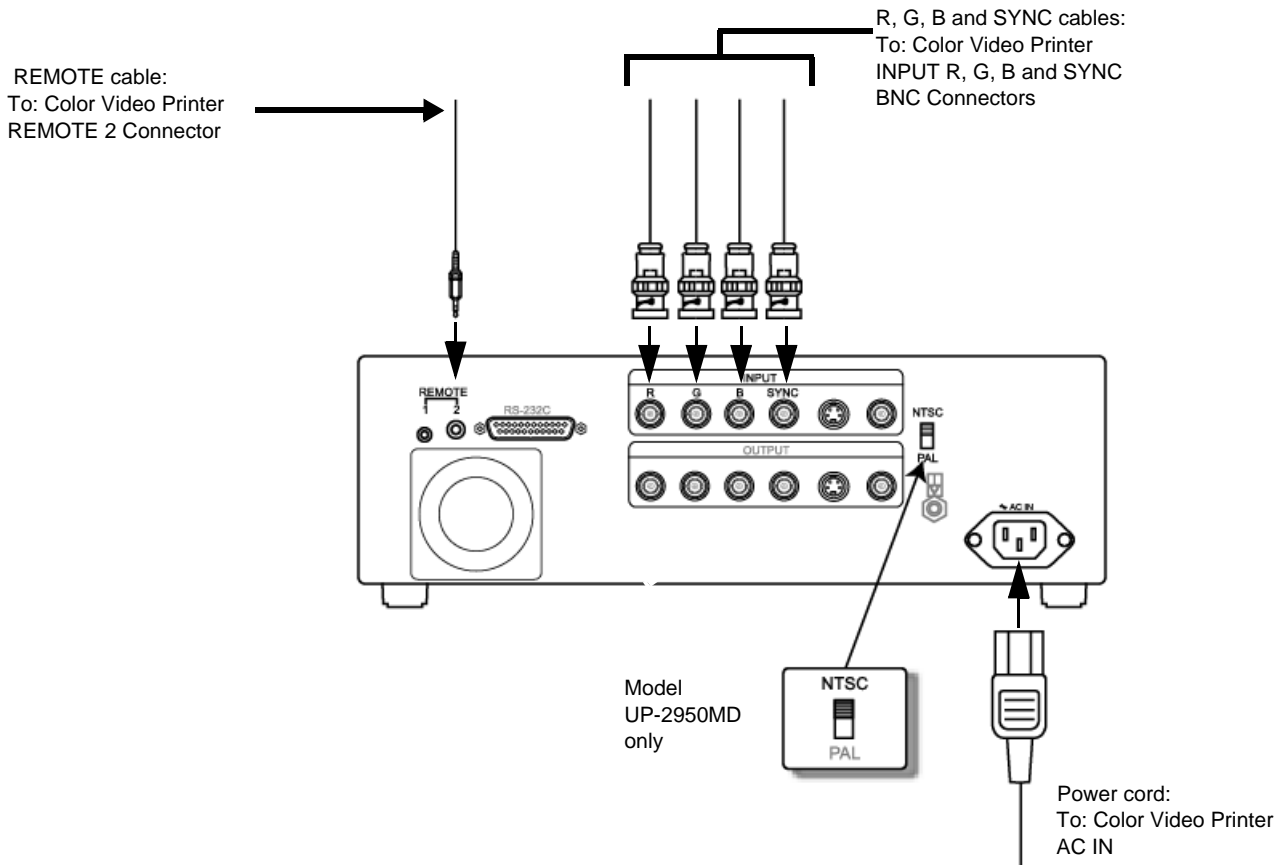

**Figure 8-121 Color Video Printer Ground Cable Connection**
- 17.) Connect the Ground cable (hanging out of the Bottom Metal Cover) to the Ground screw at the rear of the Color Video Printer, as shown in Figure 8-121 below